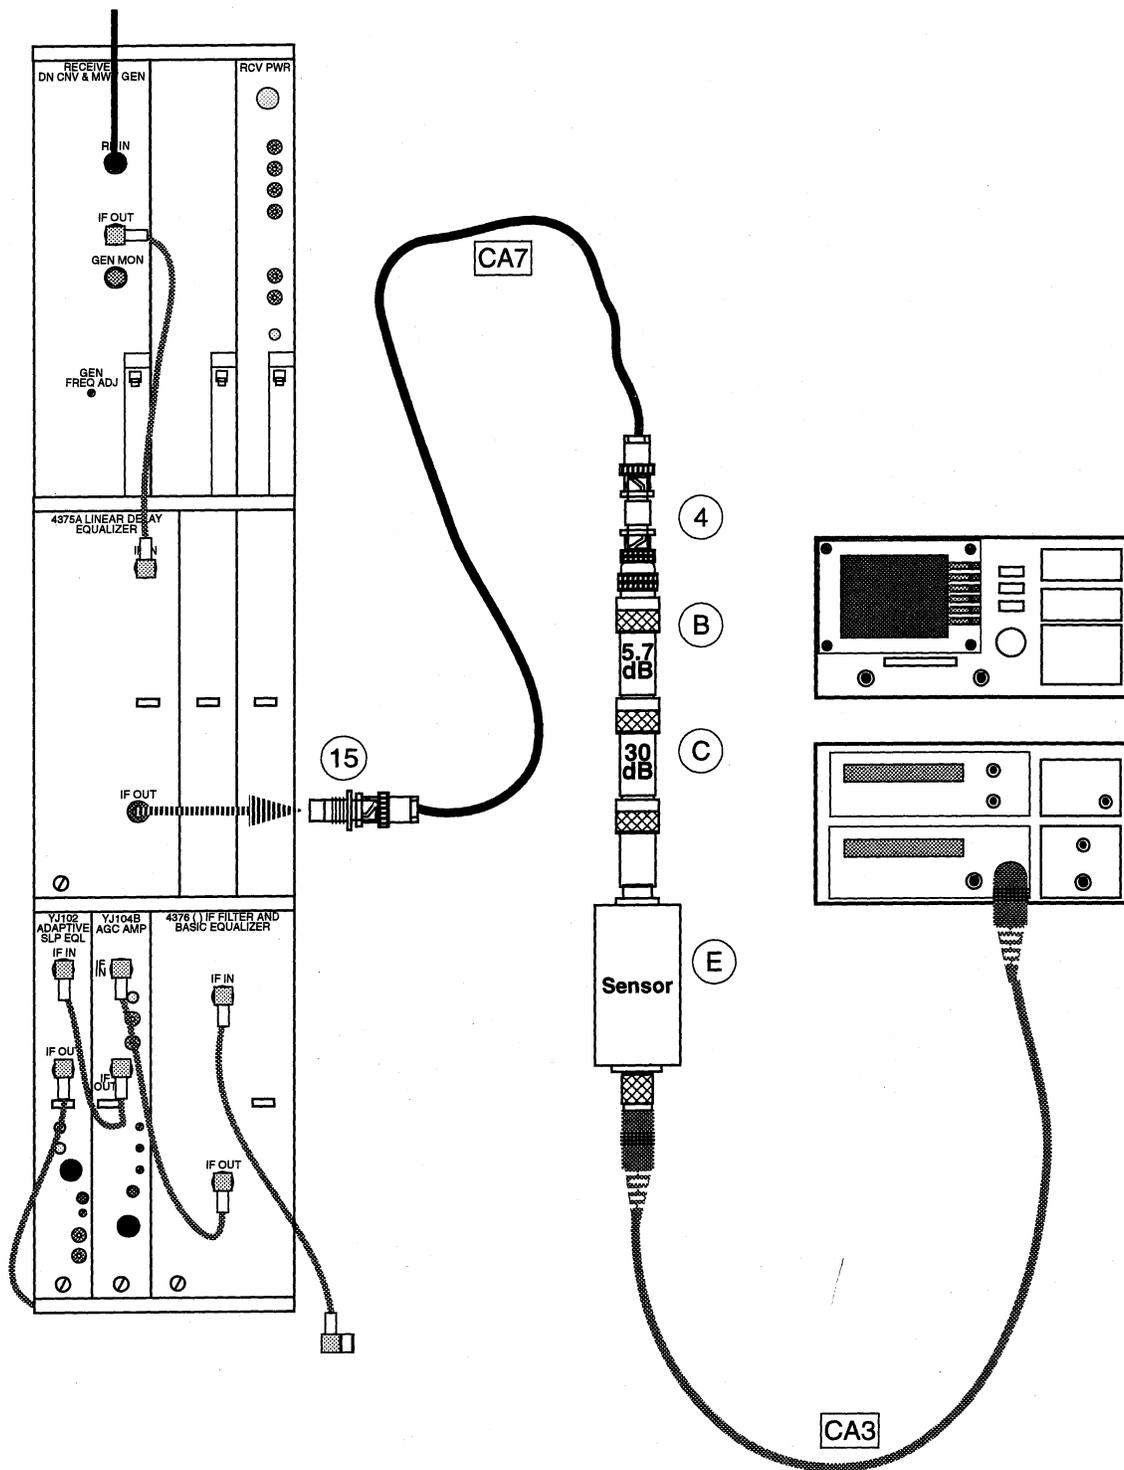

Figure 11. Linear Delay Equalizer IF OUT Level (Non-DIV)
- b. Connect the power meter to the IF OUT jack as shown in Figure 11.